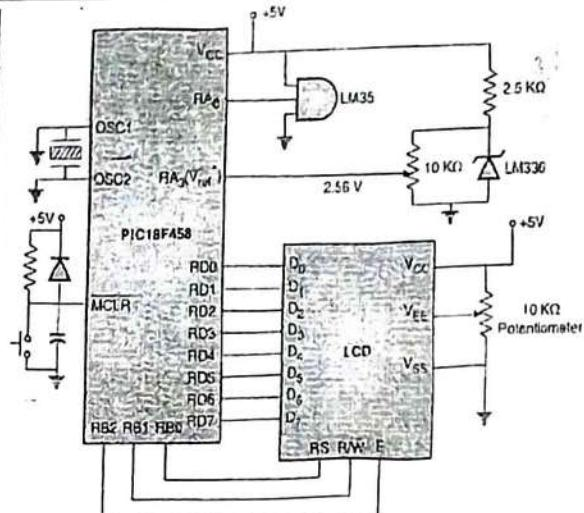

Fig. P. 7.5.6(a): Interfacing diagram of PIC18F458 based data acquisition system for measurement of temperature
- Fig. P. 7.5.6(a) shows the interfacing diagram of PIC18F458 with LM35 temperature sensor.